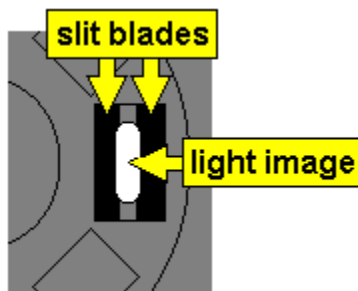

Figure 72 Aligning the emission fibre
22. Turn the adjustment screw until the white light is centralized on the emission slit inside the LS-50B, as shown in Figure 72.